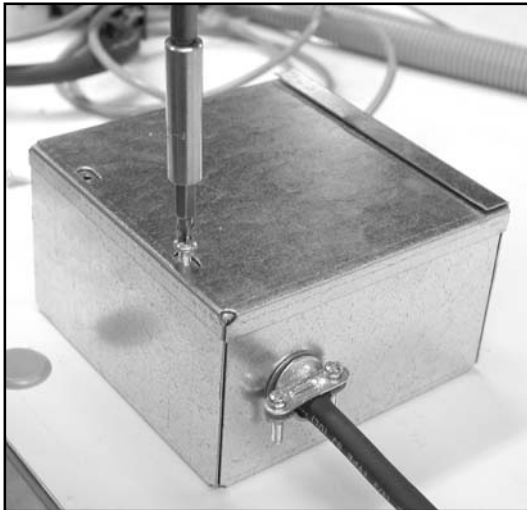

Figure 7
7. Place Covers on Relay and Electrical Box after all wiring has been completed. See **Figures 7 & 7a**.